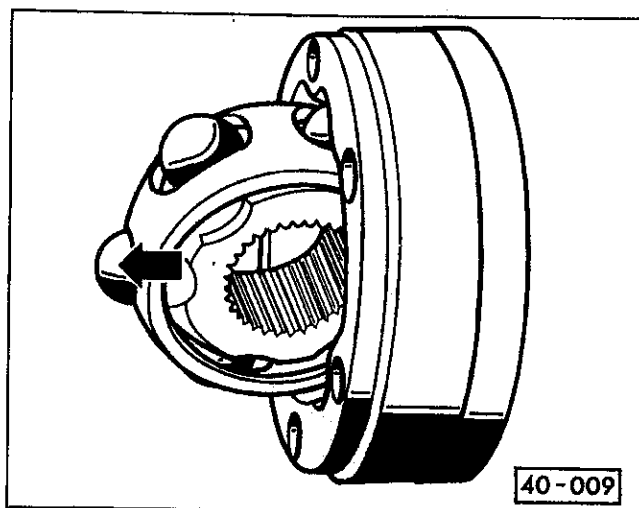

Fig. 26. Ball hub and cage being removed from housing. Pull in direction of arrow.
3. Swivel ball hub and ball cage 90°. Pull ball hub together with cage and balls from housing. See Fig. 26.